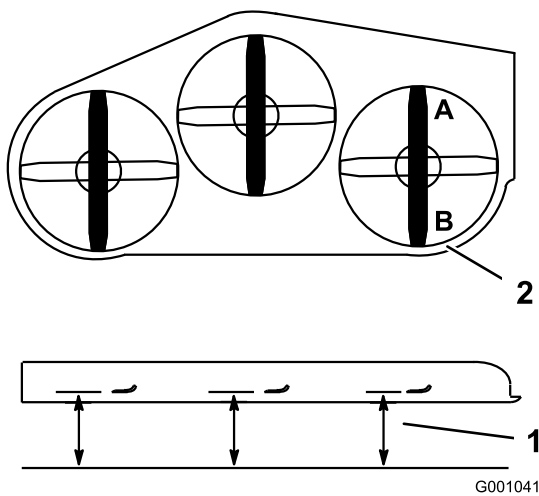
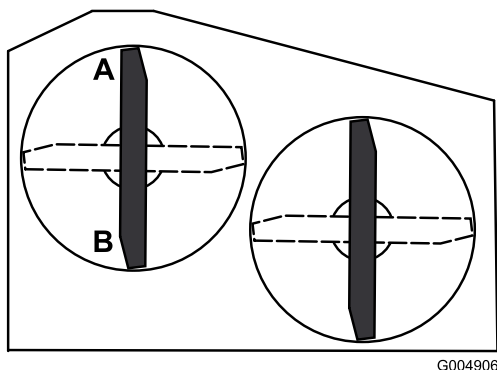

Figure 64
Figure 65
2. Position one blade front-to-rear. Measure at **A** and **B** locations from a level surface to the cutting edge of the blade tips (Figure 64 or Figure 65). For 36 inch mower decks use Figure 65.
4. Position the blades front-to-rear. Measure at **C** and **D** locations (Figure 64) from a level surface to the cutting edge of the blades.